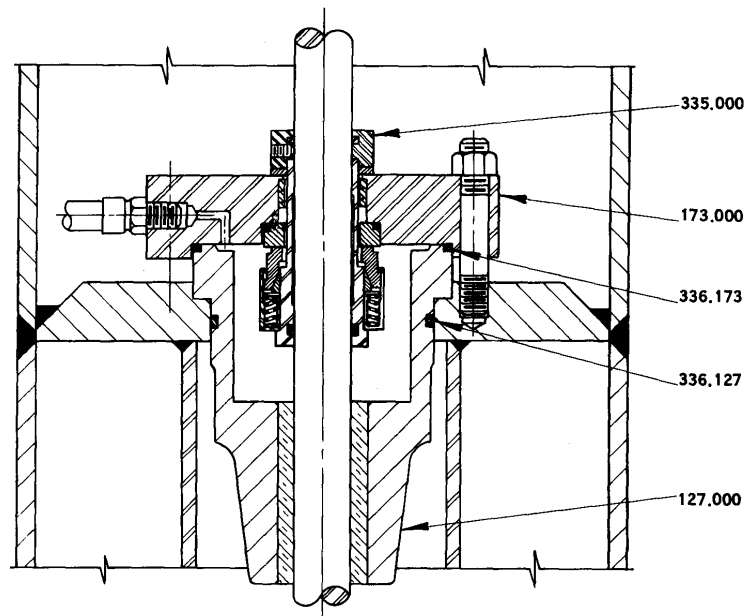

Fig. 6-4 Seal Arrangement.
1. Place an O-ring in the groove in the cylindrical portion of the seal container (127.000). Install the seal container in the discharge head, taking care not to pinch the O-ring on the edge of the hole. If the seal container has an O-ring groove in its top surface (Fig. 6-4), install an O-ring in this groove. If a seal container flange